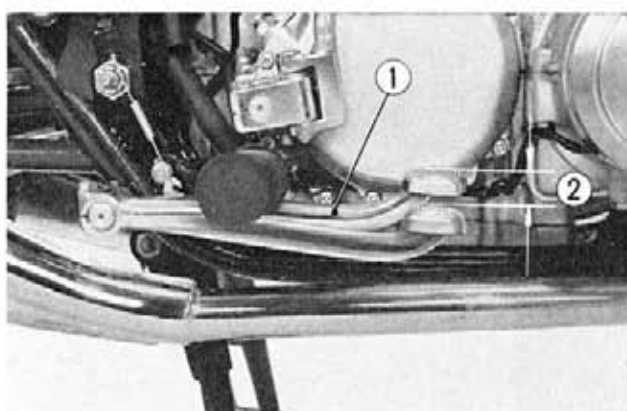
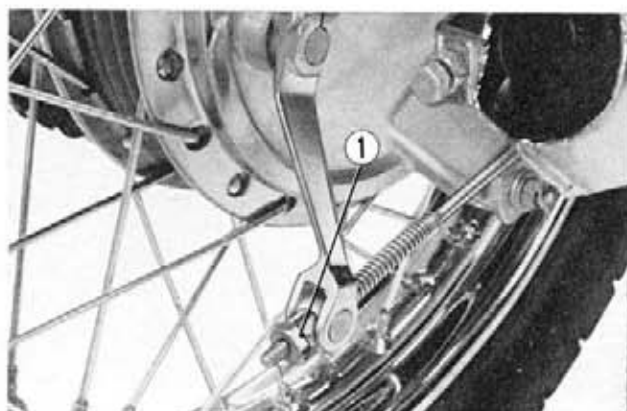

Fig. 14-20 ① Rear brake pedal
Fig. 14-21 ① Rear brake adjusting nut
6. To check the rear brake pedal free travel, raise the rear wheel off the ground by placing the motorcycle on the main stand. Rotate the wheel by hand and note the distance the pedal tip travel before the brake takes hold. Nominal free travel is approximately 1 in. (25 mm) (Fig. 14-20). If adjustment is necessary, make the adjustment by turning the adjusting nut. Turn clockwise for less free travel, counterclockwise for greater free travel. (Fig. 14-21)